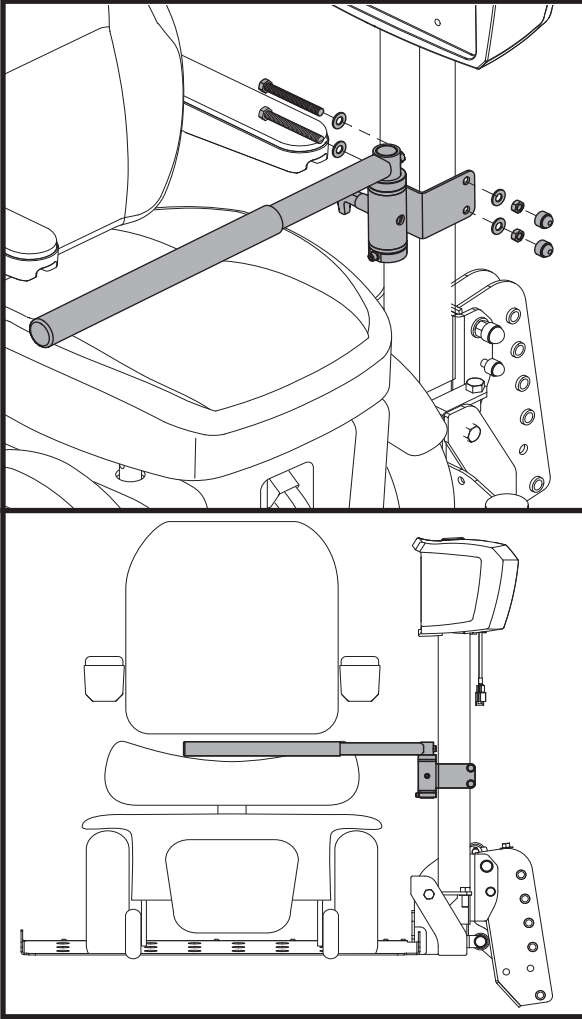

Figure 5. Hold-down Bar Installation
3. Place the power chair hold-down bar on the seat into the cushion. Once secured, attach to mast with supplied hardware. **See figure 5.**